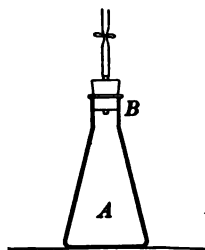
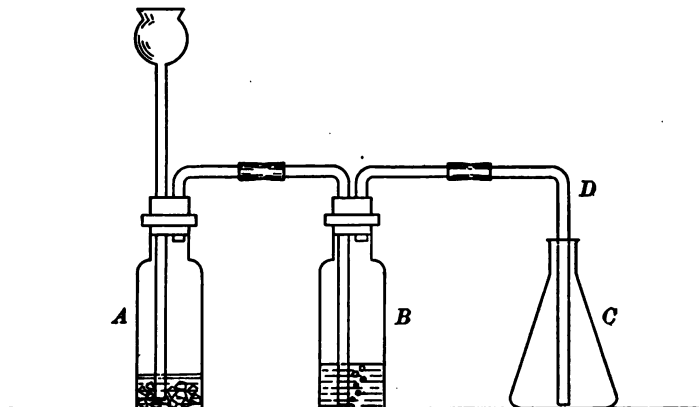

FIG. 30
FIG. 31
c. Half fill a small beaker with limewater and pass carbon dioxide through the liquid (R). The formation of a white precipitate in limewater is a test for carbon dioxide.
d. By blowing through limewater prove the presence of carbon dioxide in the air exhaled from the lungs (R). Hold a wide-mouthed bottle above a small flame so that the hot gaseous products of combustion will collect in it; then quickly add a few cubic centimeters of limewater, cover the mouth of the bottle with the hand, and shake up the contents. What do the results prove? What are the sources of carbon dioxide in the air?
**52. Weight of 1 liter of carbon dioxide.** Obtain a 250-cc. Erlenmeyer flask (Fig. 30) and a well-rolled cork to fit it tightly. Insert a small glass tube through the cork. A piece of pure rubber tubing is slipped over the end of the glass tubing and the rubber tubing is closed with a pinch clamp as shown in the figure. Thoroughly dry the flask both inside and out, then insert the stopper tightly and mark the point to which it extends in the flask by a strip of paper cut from a label. Open the clamp for a moment to adjust the pressure of the air. Accurately weigh to third decimal place the flask and stopper, recording the reading of the barometer and the temperature of the air. Next arrange an apparatus as shown in Fig. 31. *A* represents the carbon dioxide generator, *B* represents a bottle partially filled with sulfuric acid, and *C* represents the 250-cc. flask (cork removed). Now generate a slow current of carbon dioxide in *A*. The gas is dried as it bubbles through the sulfuric acid in *B* and is then conducted into *C*, gradually displacing the air in *C*. Continue passing the gas into *C*, until you are satisfied that all the air has been expelled; then while the gas is still being evolved, slowly remove the tube *D* from the flask, and at once insert the cork in the flask to the point indicated by the gummed paper. Open the clip for a moment to adjust the pressure; then weigh the flask as